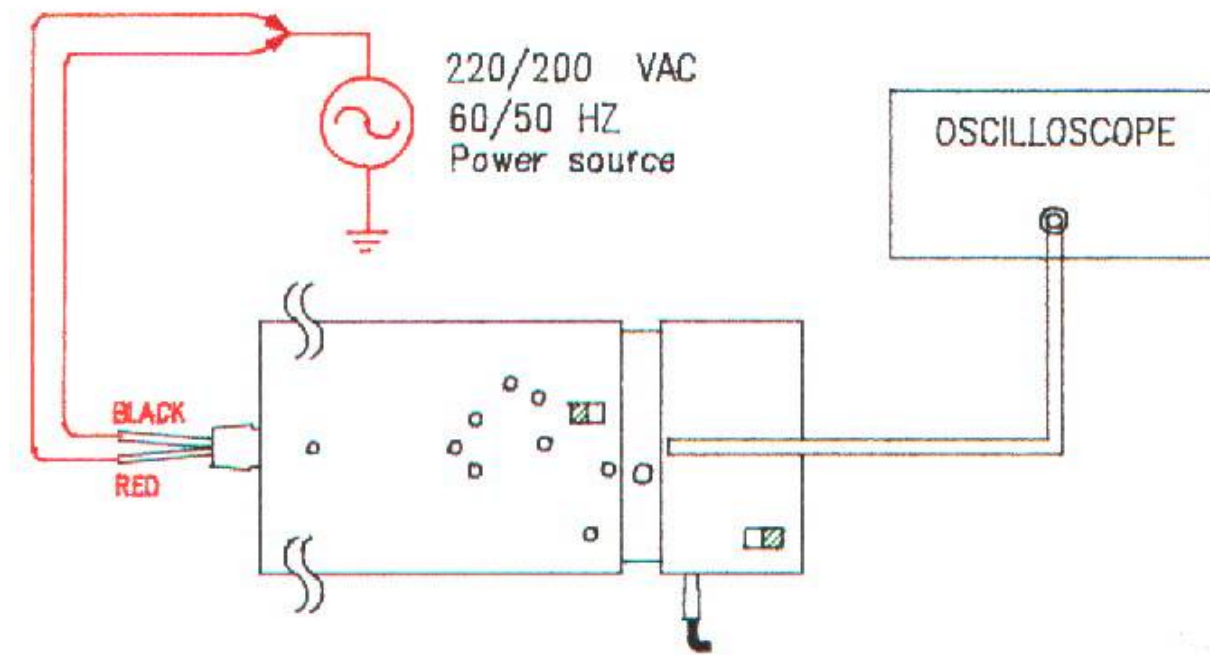

Fig. 10
- Referring to Fig. 10, connect output BNC to an oscilloscope has good grounding.